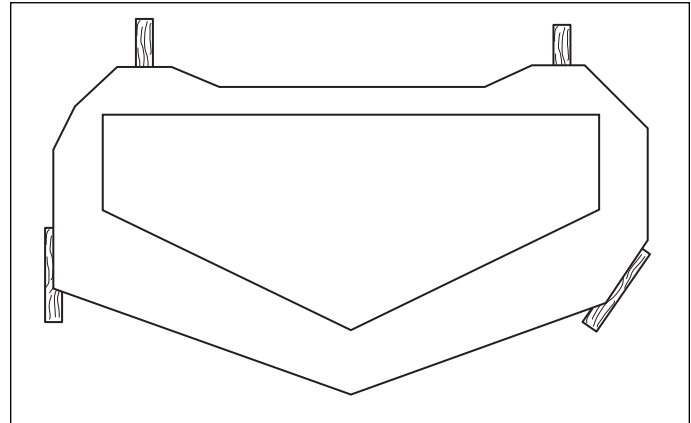

Figure 16. 2 x 4 Locations
3. Place 2 x 4 blocks under each corner of the mower deck with the 3-1/2" sides being vertical. Place a 1/4" (0,64 cm) thick spacer on top of the rear 2 x 4 blocks. See Figure 16.